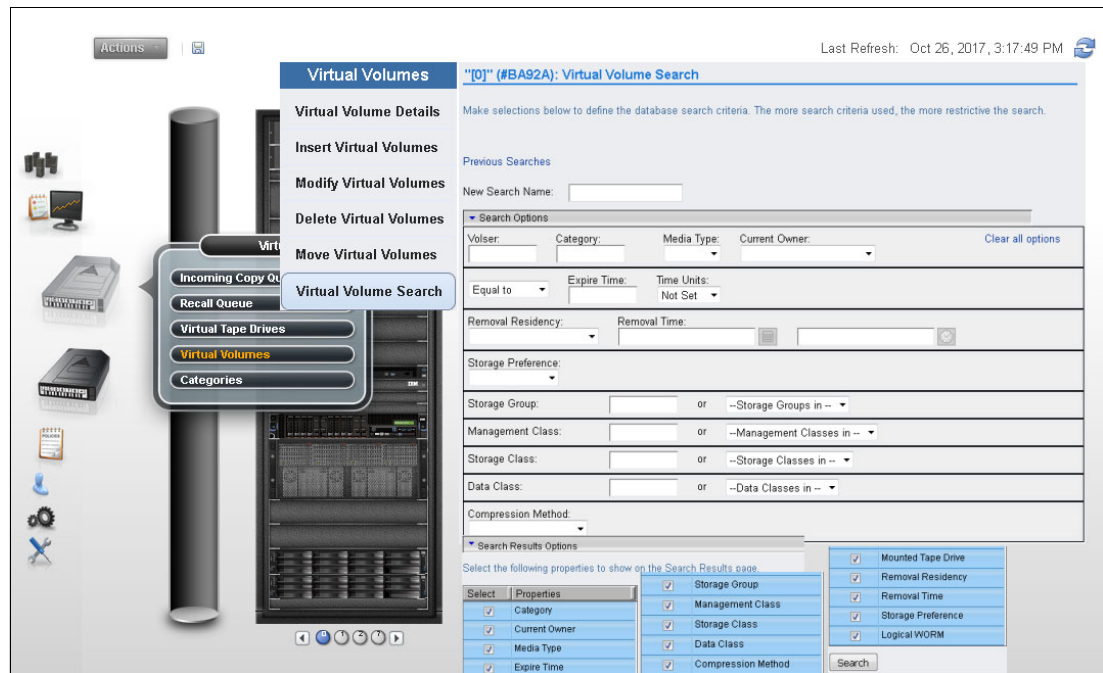

Figure 9-54 MI Virtual Volume Search entry window
To search for virtual volumes in a specific TS7700 cluster by VOLSER, category, media type, expiration date, or inclusion in a group or class, use the window that is shown in Figure 9-54. With the TS7720T, a new search option is available to search by Partition Number. The user provides a search name to every query so that they can be recalled as necessary.
When looking for the results of earlier searches, click **Previous Searches** on the Virtual Volume Search window, which is shown in Figure 9-54 on page 419.
- ▶ Click the down arrow that is adjacent to the **Search Results Option**, shown in Figure 9-54 on page 419 to open the Search Results Options table.